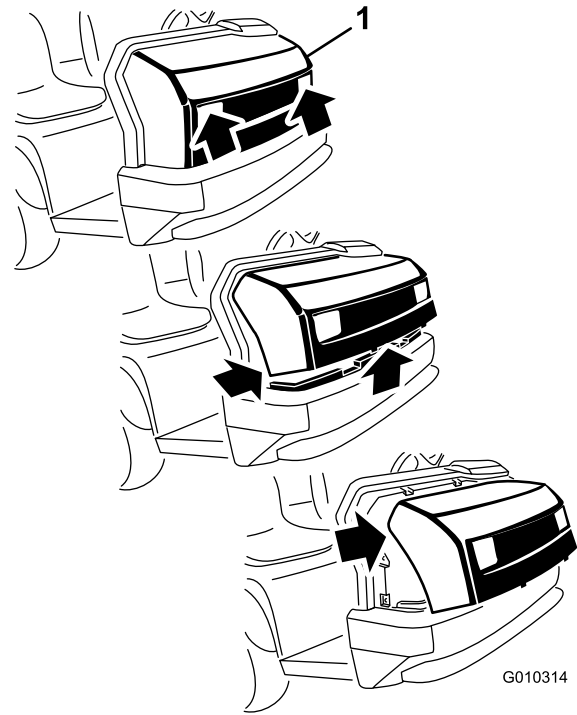

**Figure 34**
- The jacking point at the front of the vehicle is under the front center frame support (Figure 33) and at the rear it is under the axle (Figure 34).